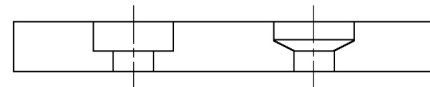

Figure 7
- 4.3.6.2 Refer to Figure 7 and carefully examine the counterbored holes in the new friction disc. One set of counterbored holes is **tapered** and designed to accept the **rivet head**, while the other set of counterbored holes is **flat bottomed** and designed to accept the **clinched end of the rivet**.
4.7.1 Slide the wear spacers (29) and clamp tubes (12) on of the studs. Reinstall the clamp tubes only, if clearances are larger than .50" (12.7mm) as shown on Figure 7, and friction discs are not fully worn.